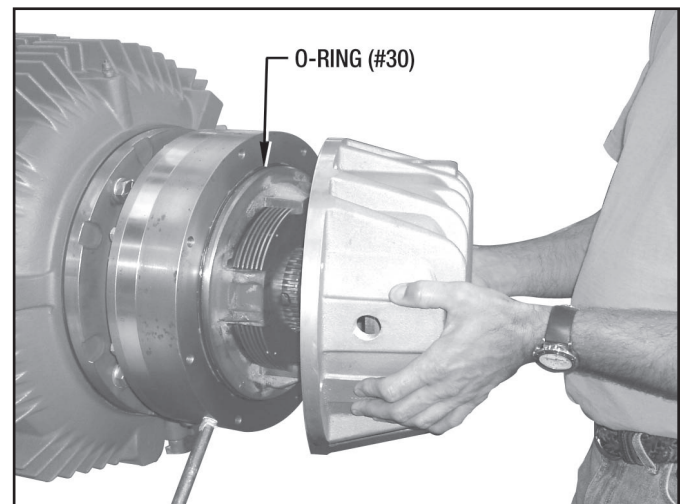

Figure 9 - Installing End Housing (#9)
1. Lubricate O-ring (#30) with a light coating of Vaseline or equivalent and place it on the Piston Assembly. (*See Figure 9*).
2. Place the End Housing (#9) onto the Piston Housing Assembly. (*See Figure 9*)